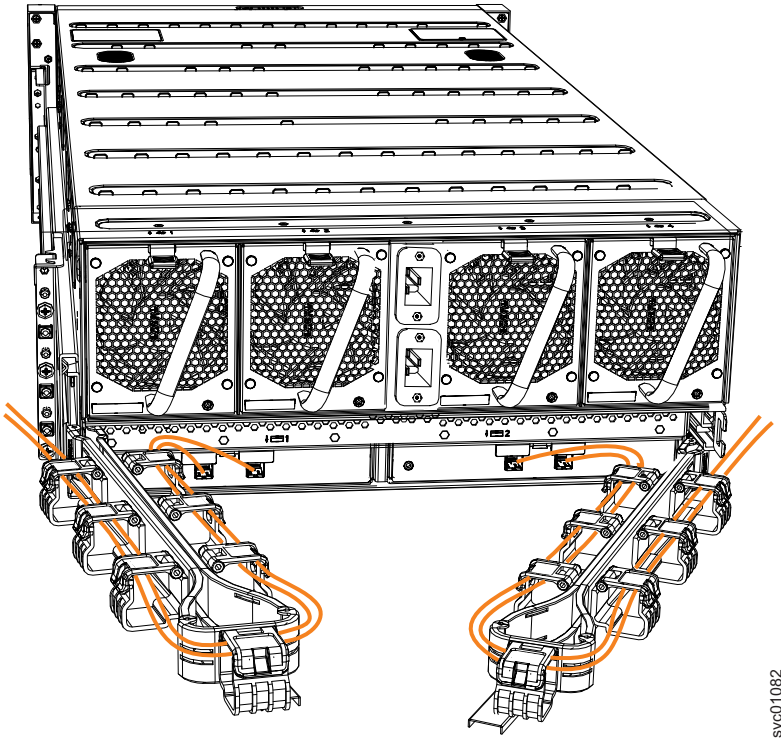

Figure 96. Example of SAS cables routed through the cable management arms
8. Route the SAS cables through the cable management arms, as shown in Figure 96 on page 99.